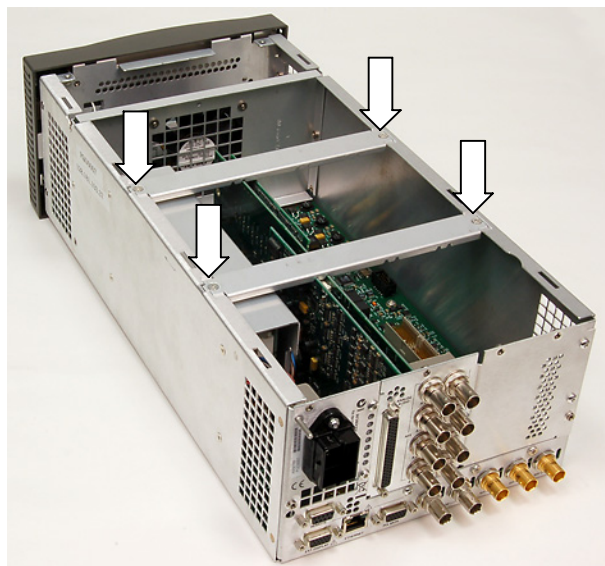

Figure 6: Removing the module guide brackets
5. Remove the four screws from the module guide brackets as shown in Figure 6. Remove the brackets and save the screws for reinstallation. Note that the brackets are keyed to the fit on the chassis in only one direction.